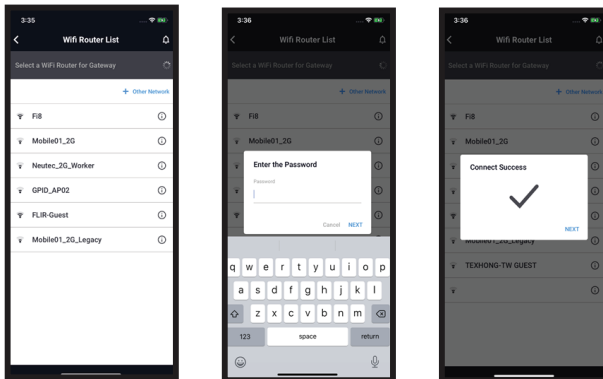

Figure 8.4 Adding a new network or selecting an existing one.
3. Select a Wi-Fi network from the list or tap **+ Other Network** to add a new network (see Figure 8.4 above).
3. Tap **+ Add Server** in the mobile app to setup a new network or select an existing one from the list as shown in Figure 8.4 above.